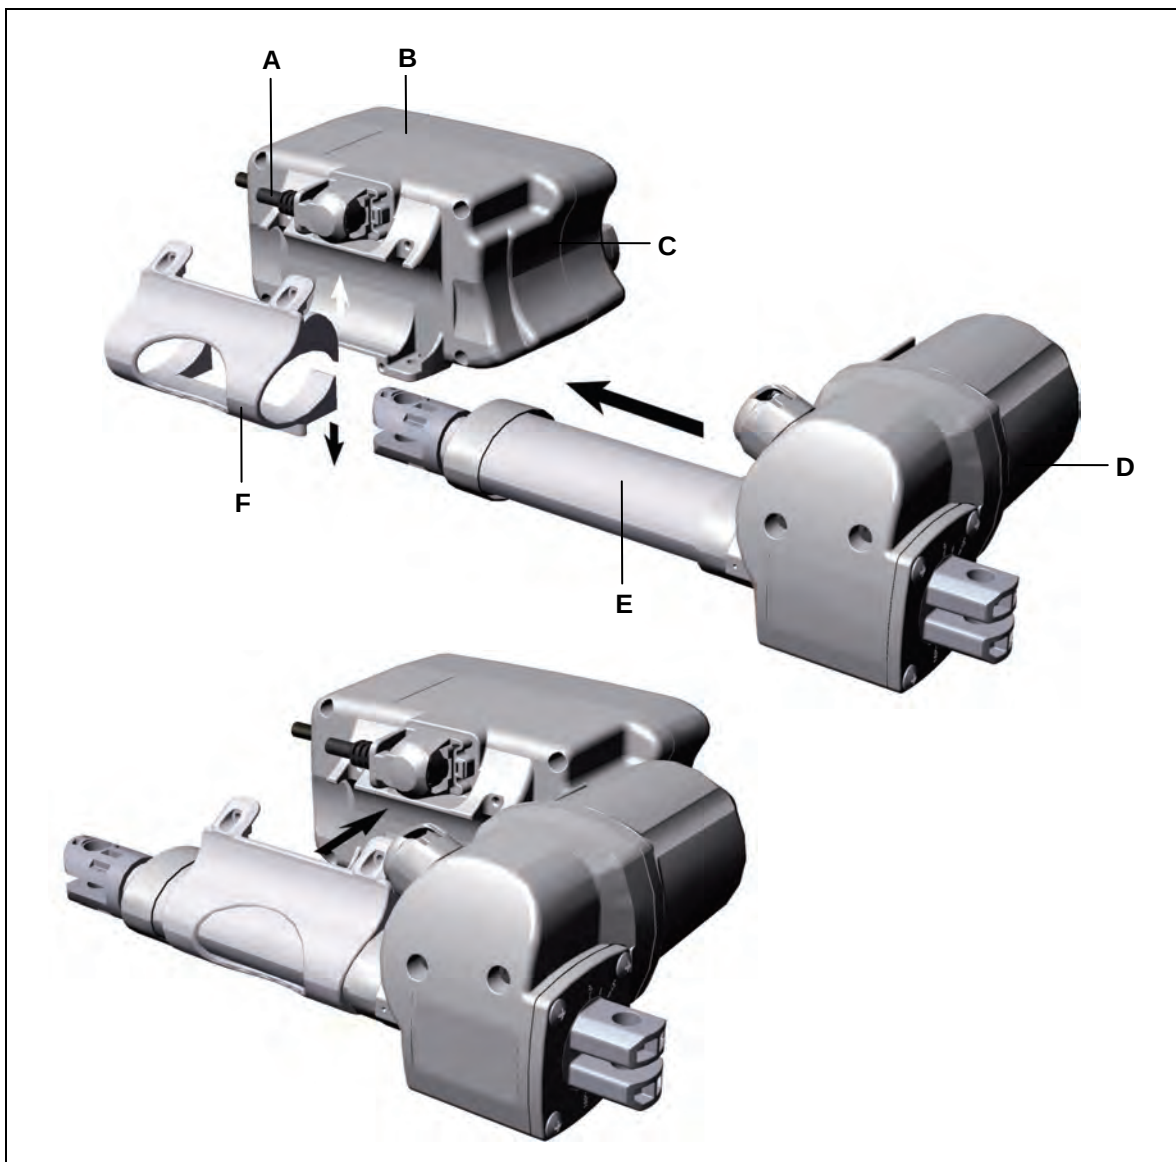

Figure 13 Fitting the Megamat MFZ drive onto the MCL II control unit
- 1 Slide the mounting clip (F) over the flange guide (E) of the MFZ drive as shown in Figure 13. To do this pull the mounting clip apart slightly.
- 4 Remove all the screws from the mounting clip (F) as shown in Figure 11 or Figure 13.